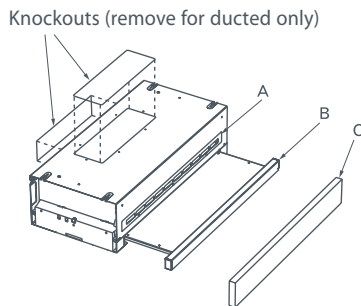

Fig.4 Preparing for install
- 1 Do not remove the knockouts shown in Fig.4. These are removed for ducted options only.
- 2 Remove Cover Tape "A". See Fig.4.
- 1 Remove the appropriate knockout to suit rear or top venting, as shown in Fig.4.
- 2 Do not remove Cover Tape "A". See Fig.4. This is removed for recirculating only.
- 3 If an 80mm handle is not installed, remove front fascia "B" by undoing the 3 screws on the fascia (see Fig. 4).